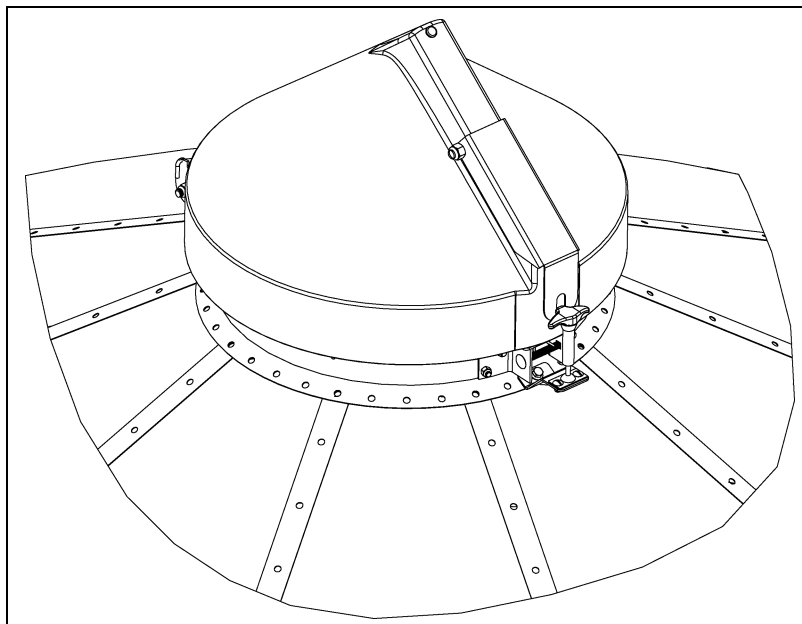

Figure 6 Completed Latch Cap
5. Figure 6 shows the finished latched cap (10).